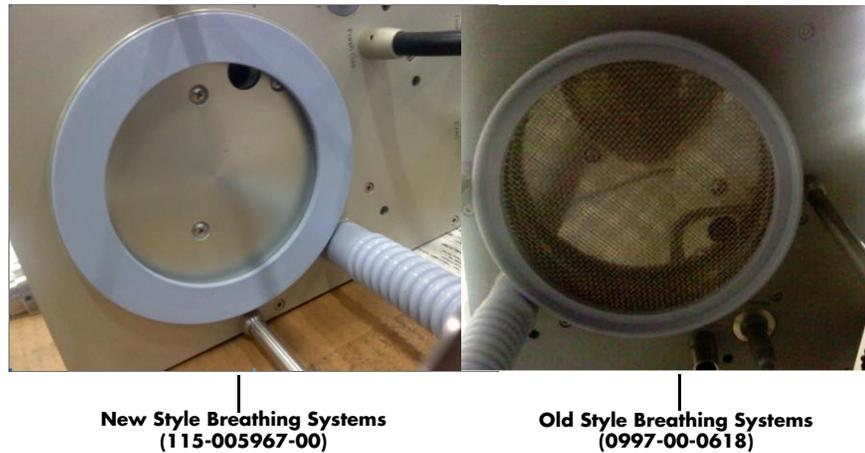

FIGURE 6-9 Breathing System Styles
1. Apply Loctite 243 to (3) screws of the Absorber Mounting Plate.
2. Secure mounting plate to Breathing System Block using (3) screws and (3) associated washers.
3. Apply Loctite 243 to the threads of (2) Absorber Guide Rods.
4. Install rods into block until rod height is 314 +/- 0.5 mm (old style breathing systems) or 303 +/- 0.25 mm (new style breathing systems) (see FIGURE 6-9).